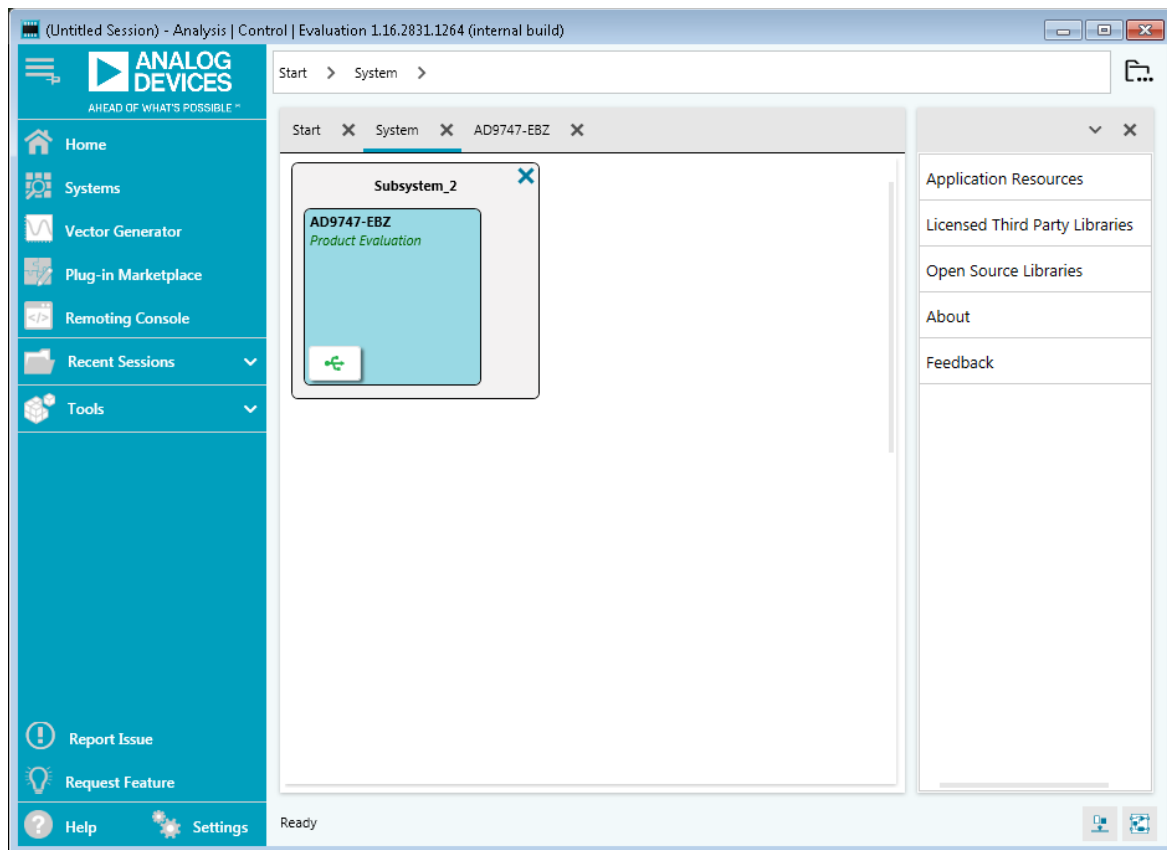

Figure 14. System Tab, USB Connection Acquired
3. If the USB cable to the EVAL-AD9747 evaluation board is ever unplugged, the user can navigate to the **System** tab, ensure that the USB icon in the **Subsystem_1** image is illuminated green, as shown in Figure 14. If the USB is not illuminated green, click the icon, select the AD9747, and click **Acquire**.
4. After clicking **Apply**, double-click the AD9747 chip plugin from the board view, which navigates to the chip view (see Figure 14) to configure additional controls as necessary on the DAC.